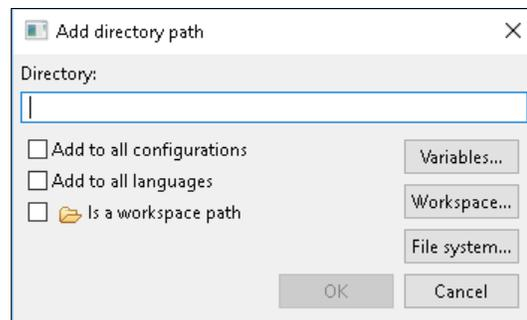

Figure 26. Add directory path dialog box.
- vii. Click **Add**. The **Add directory path** dialog box appears, as shown in **Figure 26**.